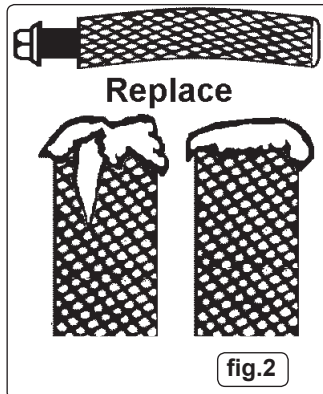

fig.2
- x **DO NOT** use the driver if it is bent, chipped, has a mushroom head, or is otherwise damaged (fig.2).